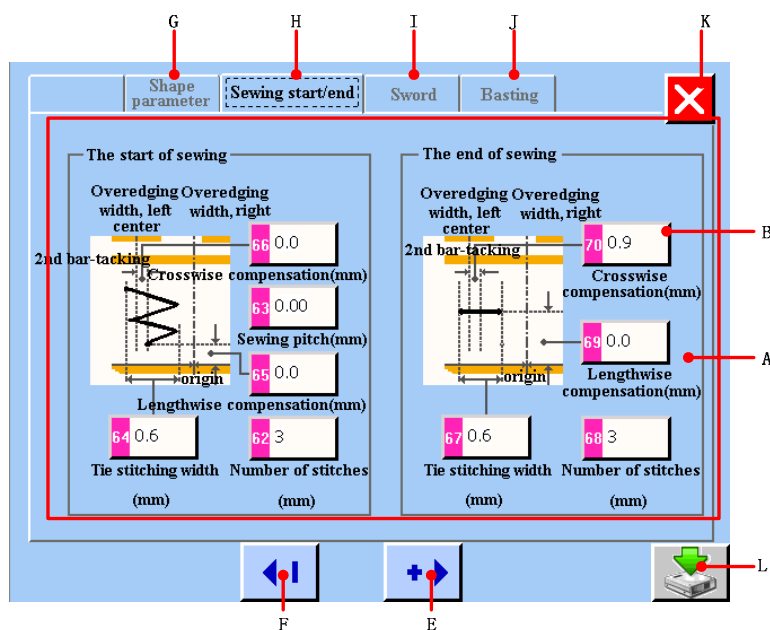

figure 4.4
- H Set sewing start/end parameter button . Press this button , it can enter <sewing start/end parameter> screen (refer to figure 4.4)
- H Set sewing start/end parameter button . Press this button , it can enter <sewing start/end parameter>screen(refer to figure4.4)